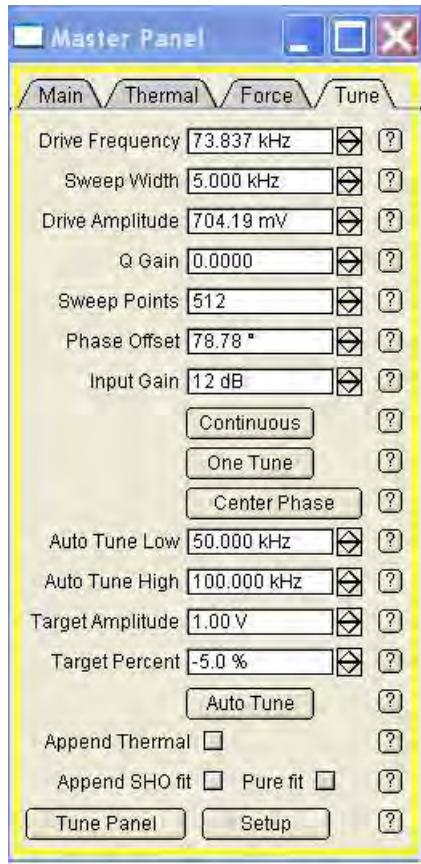

Figure 6.5 Master Panel, Tune
millimeters (mm) above the sample surface. Tune the cantilever by clicking on the Tune tab, which is the last tab in the Master panel. (See Figure 6.5)
- 1.** In the Master Panel, click the Tune tab (See Figure 6.5).
3. Take the resonance frequency obtained from the Thermal PSD, and enter 30kHz higher than that value for the Auto Tune High (See Figure 6.5).
4. Take the resonance frequency obtained from the Thermal PSD, and enter 30kHz lower for the Auto Tune Low (See Figure 6.5).
5. Enter the Target Amplitude (See Figure 6.5).